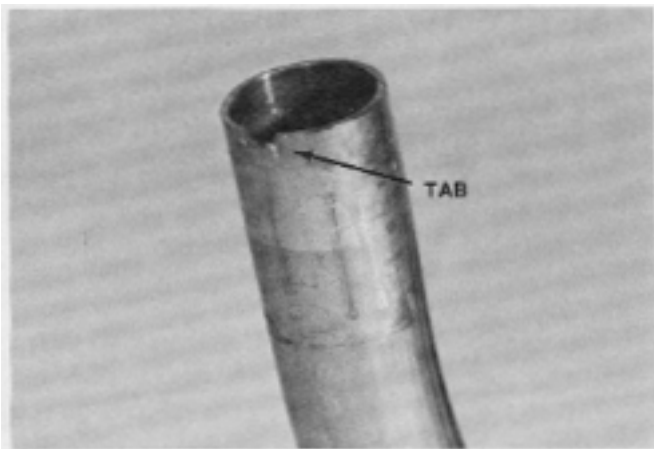

Figure 120
2. Before inserting the handles into the handle mount, check to ensure that the retainer tabs are intact and are bent out slightly. See Figure 120.